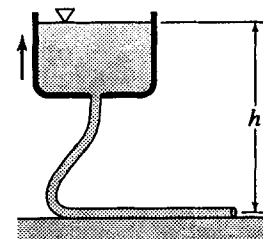

Figure P12.9
12.10 Attached to the tank in Fig. P12.9 is a flexible 40-mm-diameter hose ($f = 0.024$) 65 m long. The tank is hoisted in such a manner that $h = 10 + 0.5t$, where h is the head in meters and t is the time in seconds. (a) Find as accurately as you can the flow rate at $t = 10$ s. (b) Suppose h were decreasing at the same rate. What would be the flow rate when $h = 15$ m?